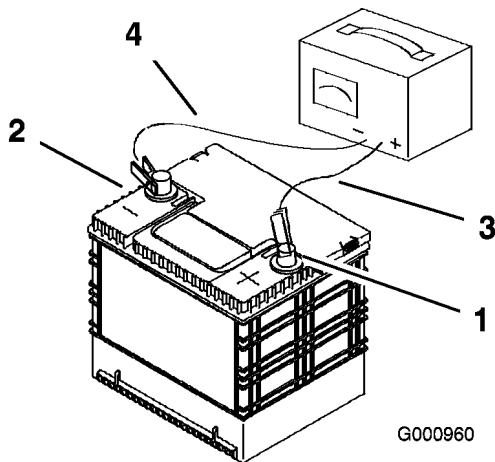

Figure 46
2. When the battery is fully charged, unplug the charger from the electrical outlet, then disconnect the charger leads from the battery posts (Figure 46).